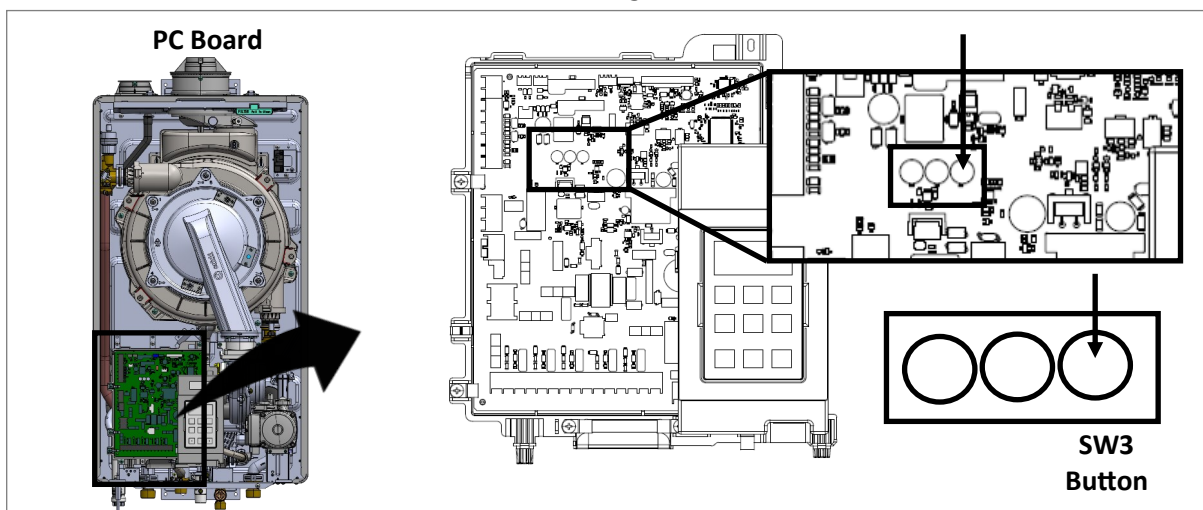
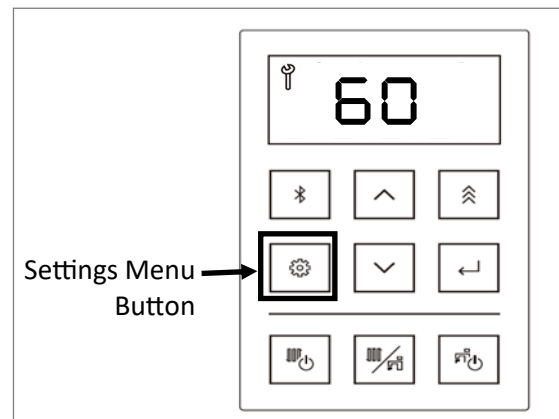

Figure 152
Figure 154
11. Press the SW3 button on the PC Board (Figure 152).
16. Display shows "60" (Figure 154) which indicates the remaining flush time in minutes. The number decreases by 1 every minute. For some reasons, flushing needs to be paused, stop the pump. The number on the display does not decrease while the unit does not detect water flow. When the pump resumes operation, the remaining flush time resumes decreasing as well.
Note: If you need to cancel this procedure, you may press the Settings Menu button on the controller (Figure 154), or press the SW3 button on the PC Board (Figure 152).